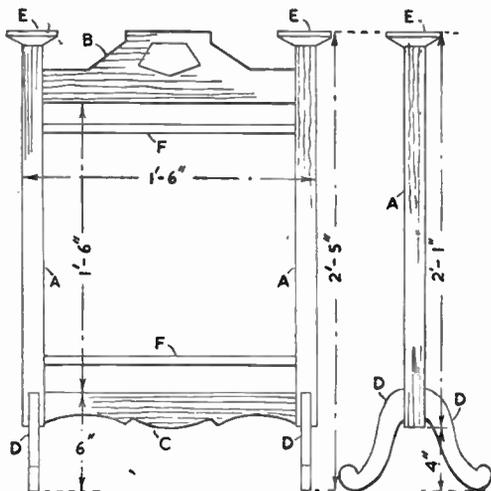
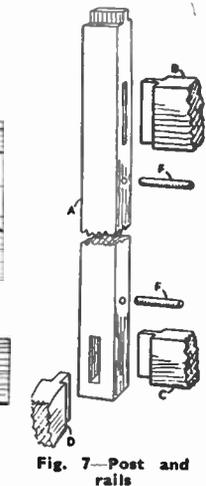

Fig. 2—Front view showing all parts Fig. 3—Side view
Fig. 7—Post and rails
At Fig. 2 we see the front view of the frame or stand, giving the main dimensions to which the various rails, etc., are to be cut. The main uprights (A) of the frame may be 1in. square in section, and the cross rails (B) and (C) framed with mortise and tenon joints into them. In the enlarged detail (Fig. 7) the actual mortises and tenons are shown of both rails, drawn apart to simplify the constructional working.
Note how the tenon will be set out at the top end of the leg. Each tenon should be  $\frac{1}{2}$ in. wide and  $\frac{3}{8}$ in. deep to meet in the centre of the uprights (A). The detail, Fig. 7, shows the leg tenon ready to be inserted into its mortise.
The work having been thus far carried out, the parts of the screen which have been framed up should be cleaned and fitted together temporarily. It will be necessary to cut small tenons—called 'stub tenons', which should be  $\frac{1}{2}$ in. long at the top ends of uprights (A) for fixing on the shaped wood caps (E). Four holes must be bored also in the inside faces of the uprights to take the ends of the turned wood rods as (F) in Fig. 7 and in Fig. 2.